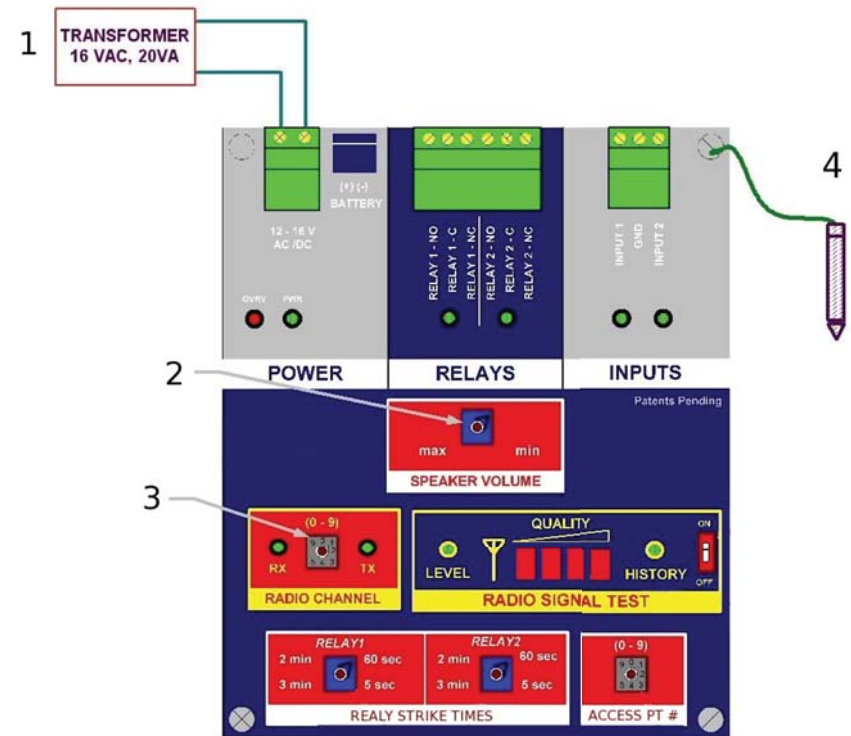

Figure 5
**Note:** Step numbers correspond to numbers in figure 5.